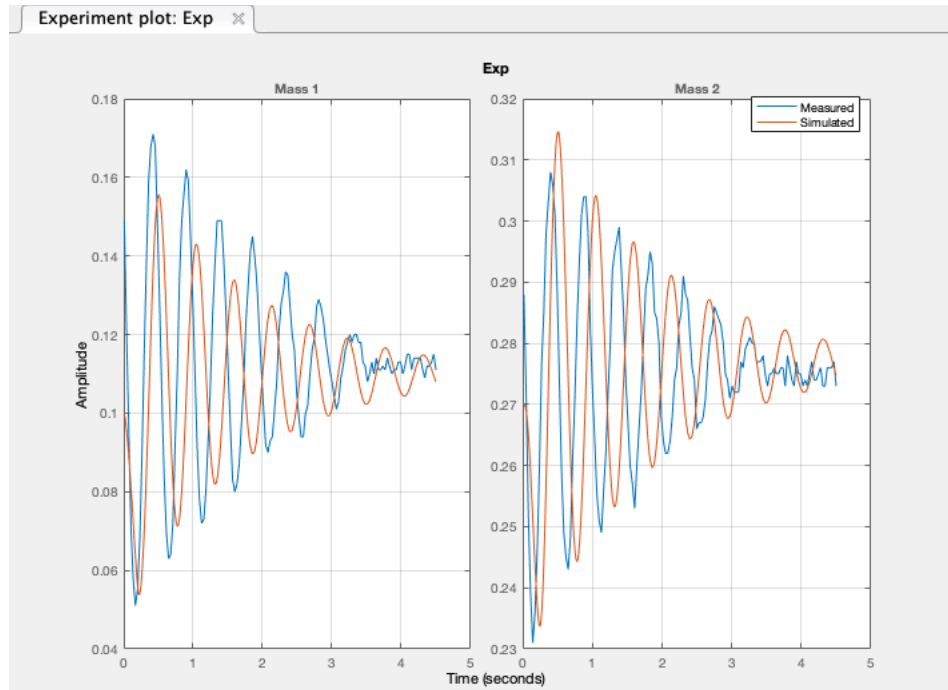

Figure 10: Parameter Estimator Plots Before Estimation
13. Finally click the “Plot & Simulate” button at the bottom of the “Edit Experiment: Exp” window. The Parameter Estimator will plot both the experimental/measured and simulation data for both Mass 1 and Mass 2. The result should look as it does in figure 10.
14. Capture a screenshot of the plots like that of figure 10 and include it in your report.